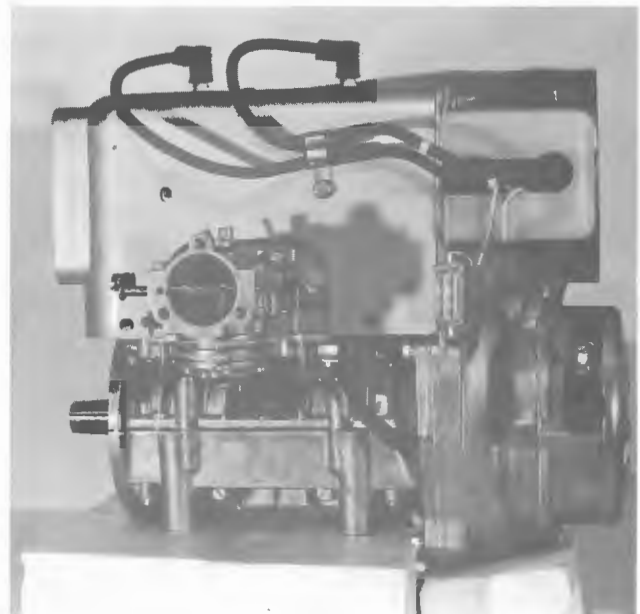

FIGURE 5-14 CCW MODEL 290
5.4.4.2 Alternate Method (See Figure 5-14)